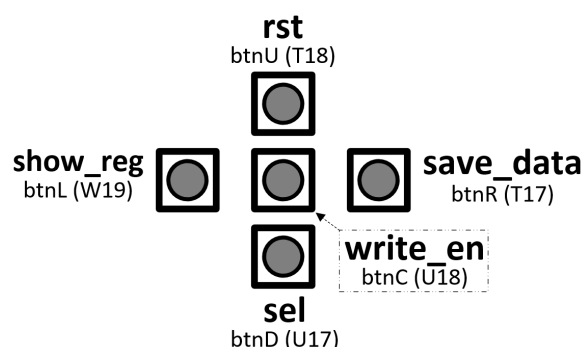

Fig. 3: Push buttons to show the connection
4. To three horizontal buttons (btnL, btnC and btnR) to connect to *show_reg*, *write_en* and *save_data*, respectively. The push button connections are shown in Fig. 3.
7. The push button connections are shown in Fig. 3.